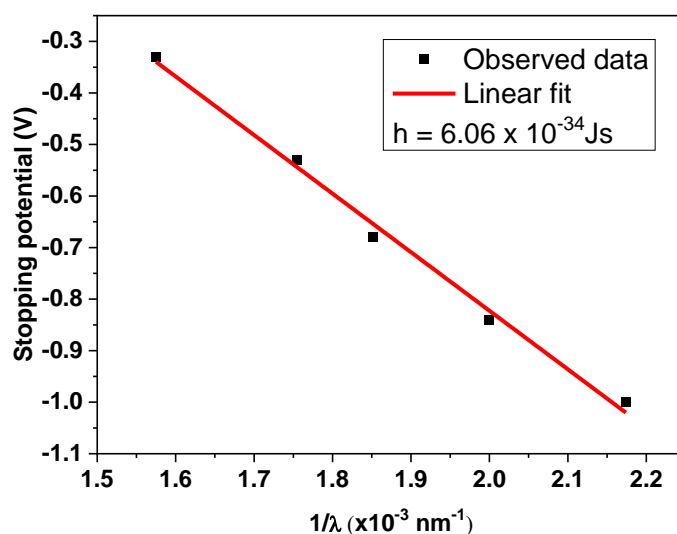

Fig. 4: Sample graph
2. Plot Stopping potential ~ (1/wavelength) and calculate slope and intercept by least square fit. A sample graph is shown in Fig.4.